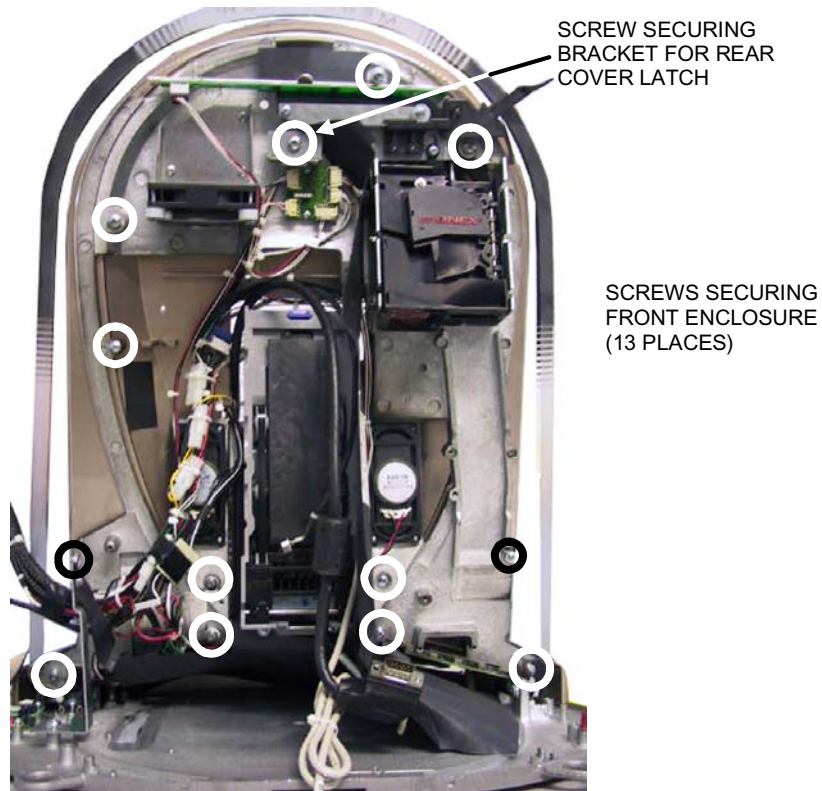

FIGURE 16 - REAR VIEW OF MEGATOUGH AURORA
18. Remove the 13 screws that secure the front enclosure and halo. Please see Figure 16 for reference.
27. After the front enclosure is fully seated, replace all 13 of the screws (along with their washers) that secure the front enclosure and the halo. Please refer to Figure 16 for screw locations.
NOTE: Be sure that when you resecure the screw that holds the rear cover bracket latch, that the latch is facing down. See Figure 16 for screw location.